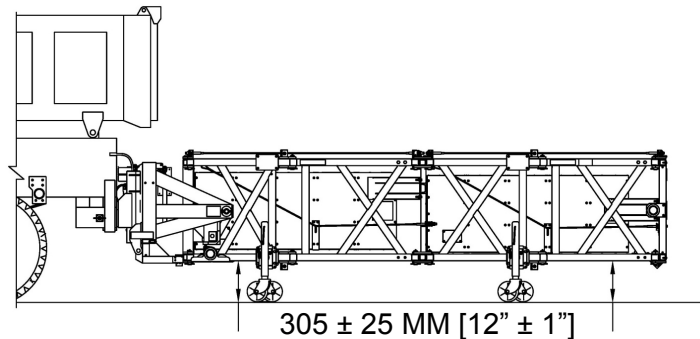
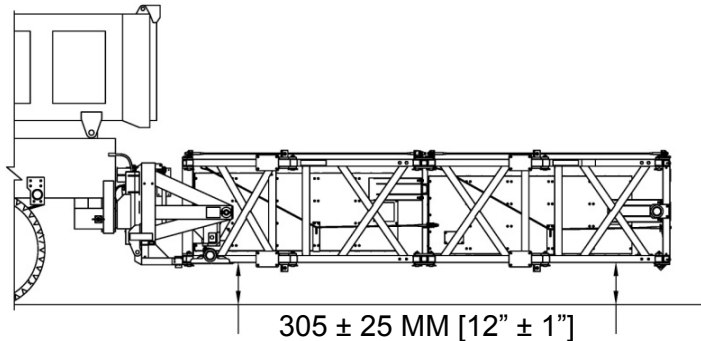

Figure 3
Figure 4
1. The TMA should be rigidly fastened to the truck. In the horizontal position, the bottom of the TMA should be 280 to 330 mm [11" to 13"] from the ground and level (See Figure 3). The TMA must be left in the down position whenever possible. The TMA can only absorb the energy of an impacting vehicle within NCHRP criteria in the down position.
2. Jacks may be used to support the TMA when it is off the truck (See Figure 3). The Jacks must be stored while the TMA is attached to the truck (See Figure 4).